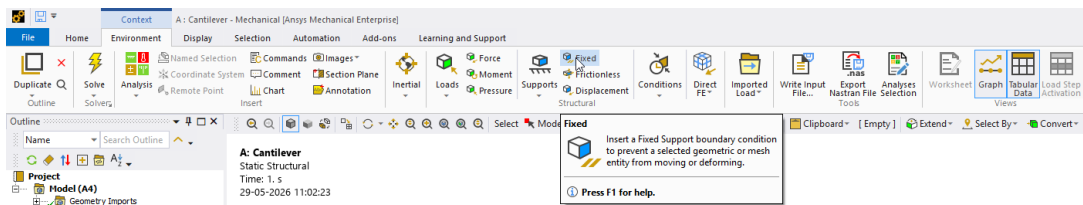

Figure 2-47 Choosing the **Fixed** tool in the **Environment** contextual tab
- Select the **Static Structural** node in the **Outline** pane; the **Details of “Static Structural (A5)”** window is displayed. Also, the **Environment** contextual tab is displayed, refer to Figure 2-47.
- In the **Environment** contextual tab, choose the **Fixed** tool from the **Structural** group, refer to Figure 2-47; the **Fixed Support** is attached to the **Outline** pane. Also, the **Details of “Fixed Support”** window is displayed.